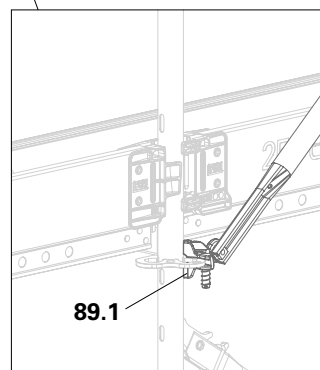
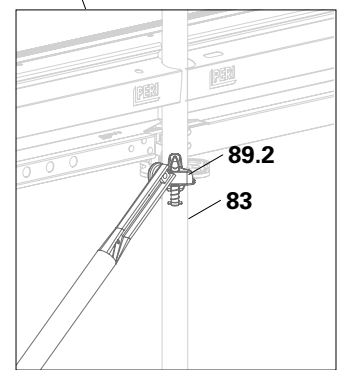

Fig. C1.05b
Fig. C1.05a
2. Fit one Node Brace UBK (**89**) at the transition to the PERI UP Flex. Fit one side (**89.1**) into the rosette of the Easy Standard (**22**) beneath the last deck level of the Easy scaffold (Fig. C1.05b). Fit the other side (**89.2**) into the rosette of the Standard UVR-2 200 (**83**) beneath the first deck level of the Flex scaffolding. (Fig. C1.05a)